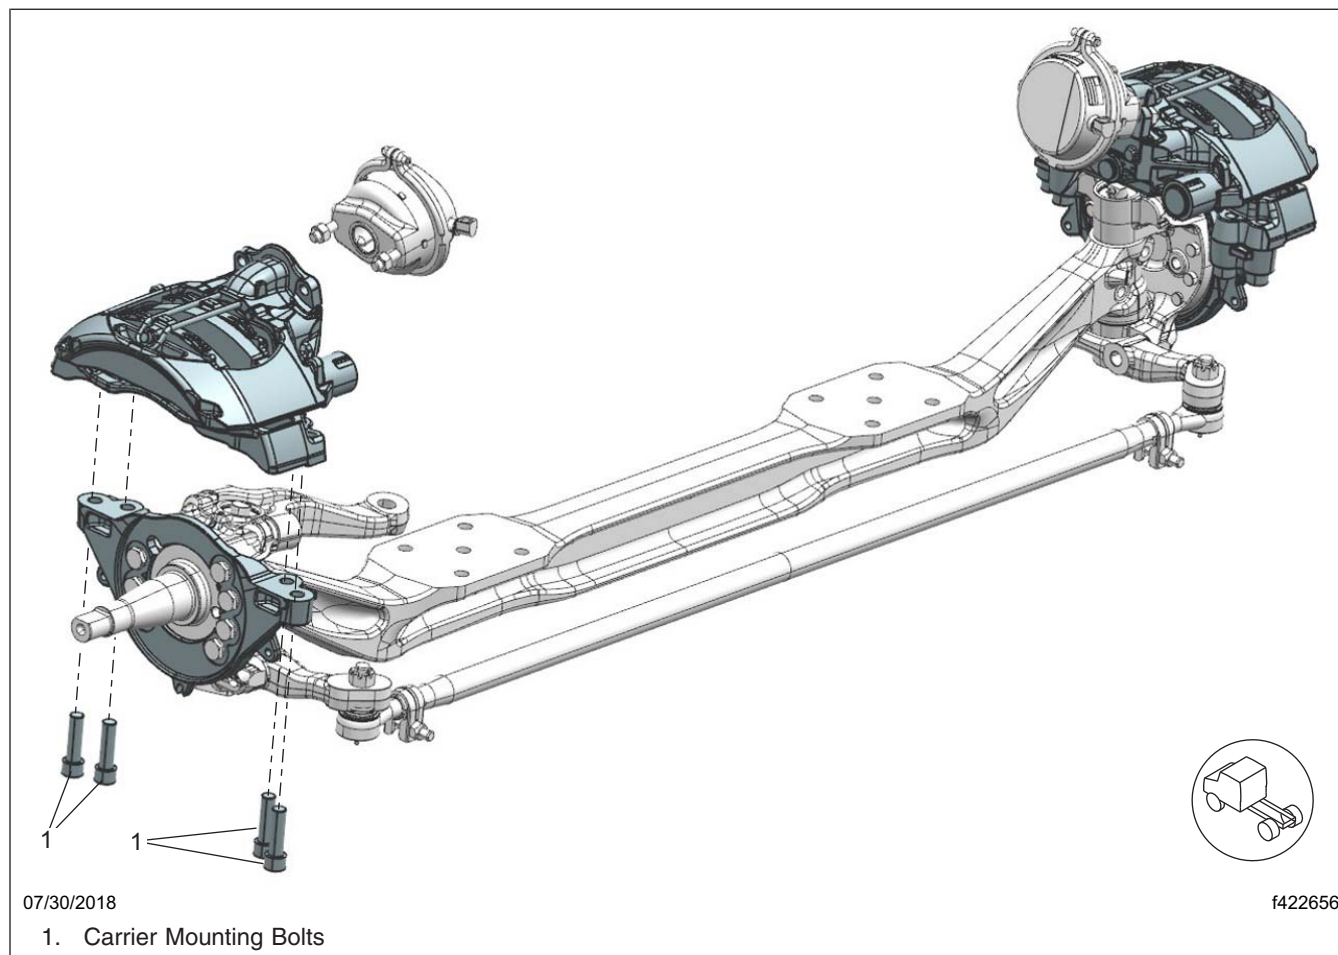
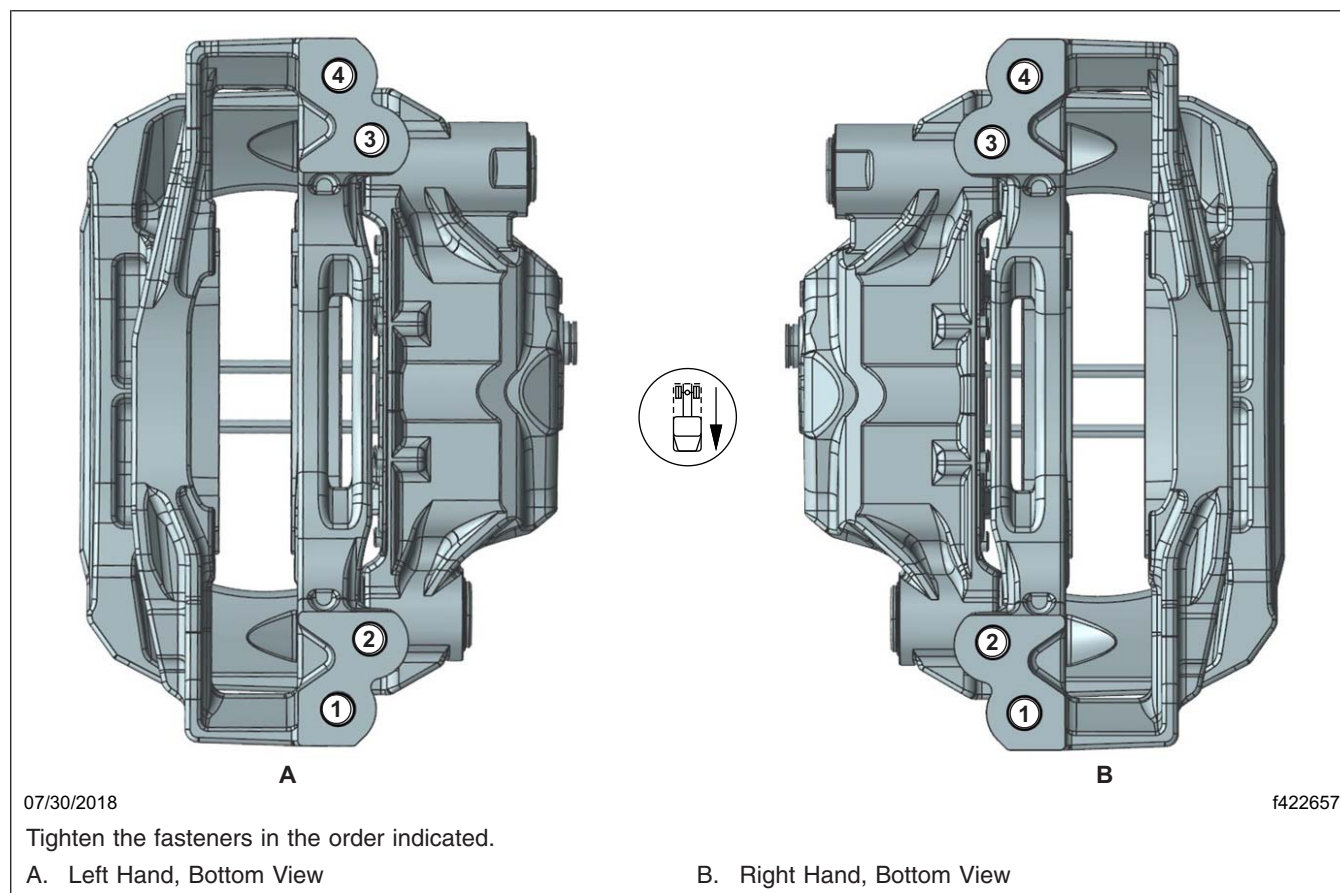

Fig. 7, Wabco Maxxus Radial Mounted Calipers
Fig. 8, Wabco Maxxus Radial Mounted Caliper Tightening Pattern
5. Align each caliper/carrier assembly with the rotor by pushing the fixed pin side of the caliper against the shelf on the torque plate, then install the caliper/carrier assembly using new caliper mounting bolts. See Fig. 7 and Fig. 8.
6. Tighten the carrier mounting bolts in two steps, using the pattern shown in Fig. 8.